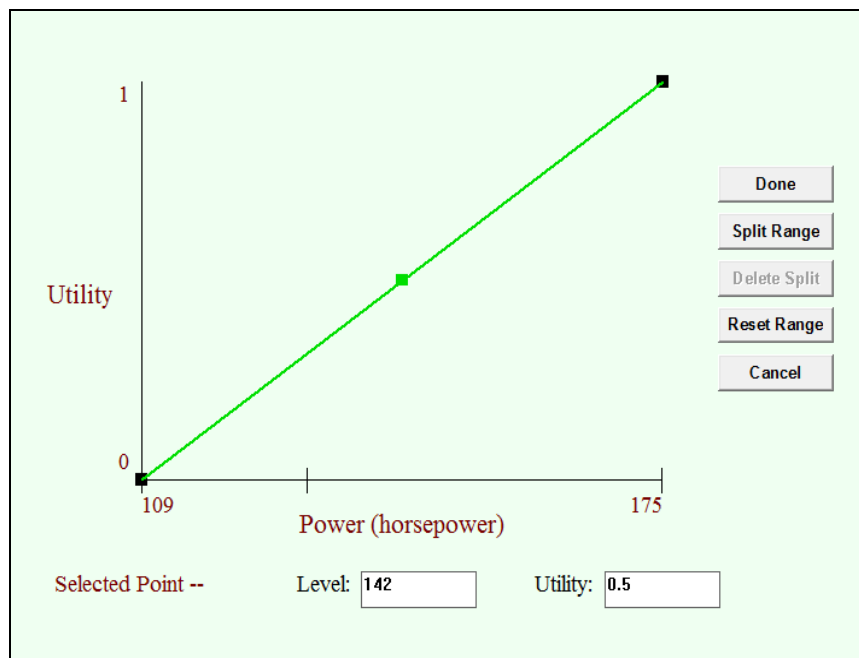

Figure 4- 4. Initial display for assessing Power SUF
4. Click the Assess button to begin the assessment process. You should see a display like the one in Figure 4- 4.